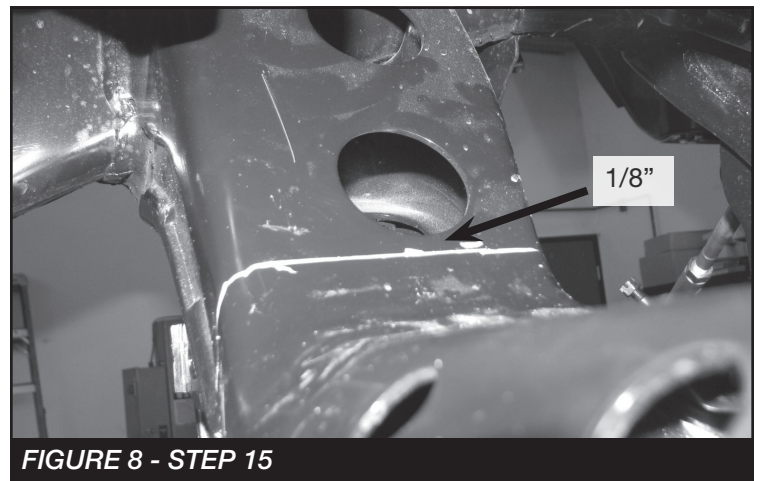

FIGURE 8 - STEP 15
15. On the top of the crossmember, locate the bottom hole and measure down 1/8", draw a line straight across the top of the crossmember. **SEE FIGURE 8** (Passenger side shown)